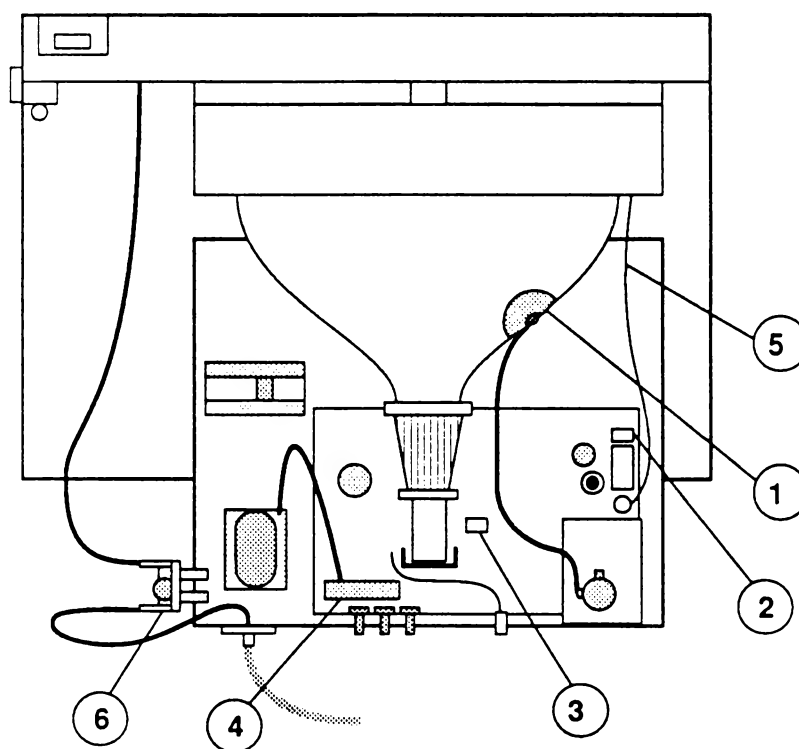
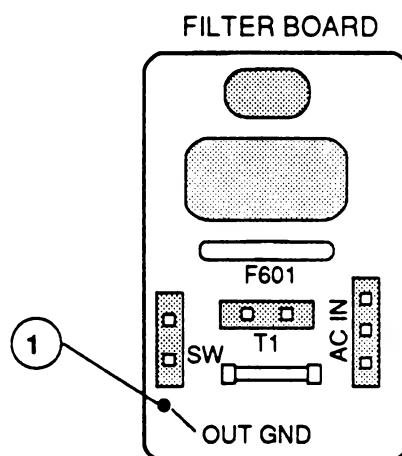

**FIGURE 9**
**FIGURE 10**
3. Remove the anode wire (Figure 9, #1) by peeling back the rubber cap, compressing the prongs of the anode connector clip (using long-nose pliers, if necessary), and pulling the connector out of the anode aperture.
6. Disconnect the brown/gray wire from position H-DY (Figure 9, #2) and the green/white wire from position V-DY (Figure 9, #3) on the main electronics assembly. Using diagonal cutters, carefully cut all the tie wraps along these wires.
7. Disconnect the two red leads at location T2 near the left-rear edge of the main electronics assembly (Figure 9, #4).
8. To free the main electronics assembly ground wire (Figure 9, #5), remove the screw from the mounting tab at the upper-right corner of the CRT. (The antistatic shield finger plate, which is also held in place by this screw, will come off.)
9. Locate the line filter board (Figure 9, #6). Unsolder the green ground wire from the line filter board at "OUT GND" (Figure 10, #1).